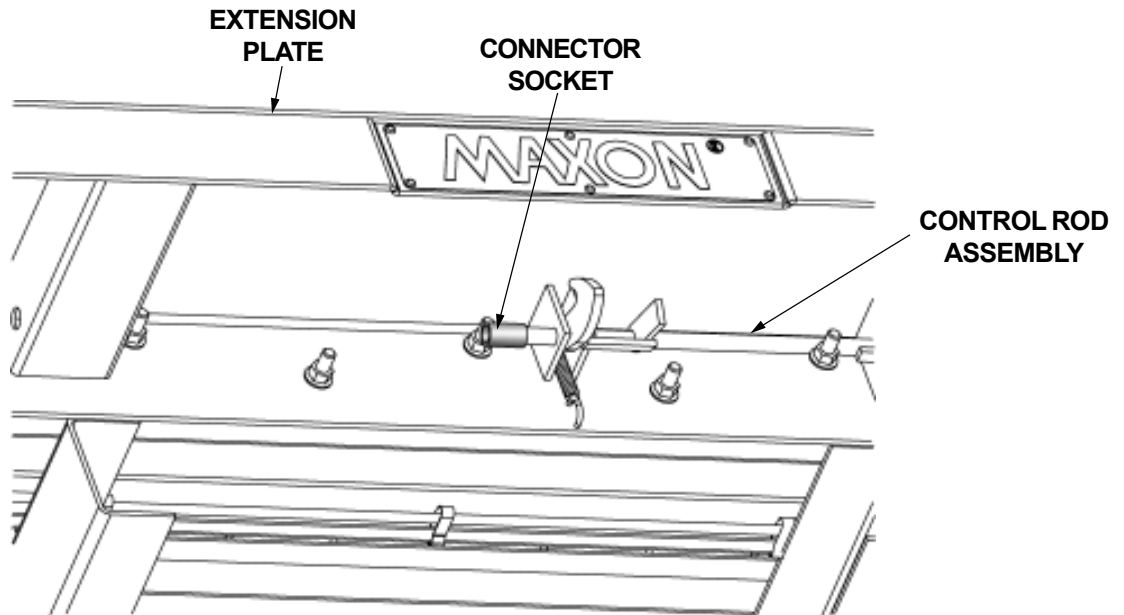
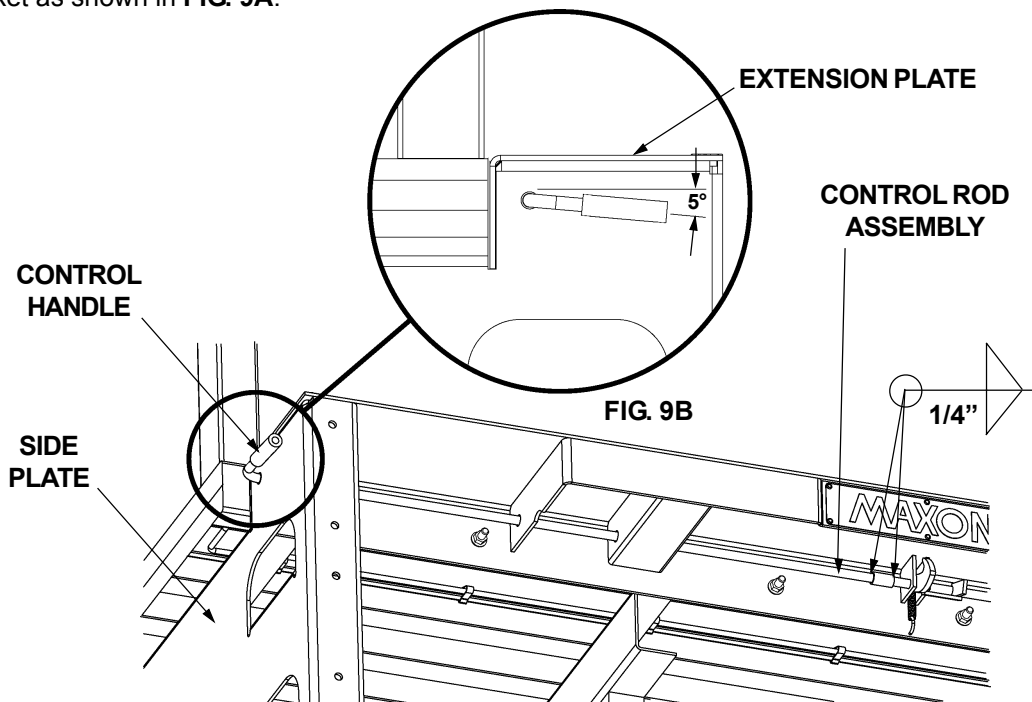

FIG. 8
FIG. 9A
7. Insert Control Rod Assembly, located under Extension Plate (FIG. 8), into socket.
8. Insert Street Side Control Handle rod through Side Plate on Street Side of Liftgate and into open side of Socket (FIG. 8). Move Socket and Control Handle rod until both rods meet in the middle inside Socket. Position the Street Side Control Handle at a 5° angle below Extension Plate (FIG. 9B) before welding. Weld both rods to Socket as shown in FIG. 9A.